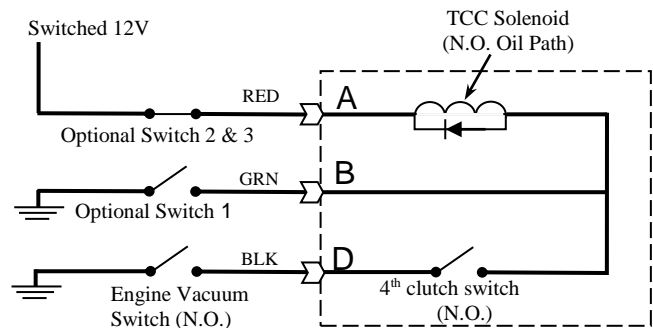

Figure 5 - Electrical Schematic for All 700-R4s & 200-4Rs
Step 6 — Refer to **Figure 5**. If you desire more control over the TCC you have a few options: